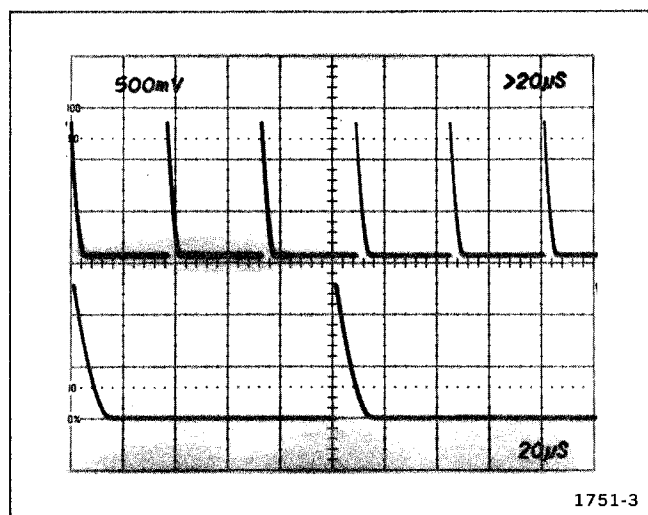

Fig. 5-3a. Variable Time/Division range.
g. Check—that Delaying sweep markers (top) and Delayed sweep markers are displayed as shown in Fig. 5-3a; at least 2-1/2 Delaying sweep markers to one Delayed sweep marker are visible.